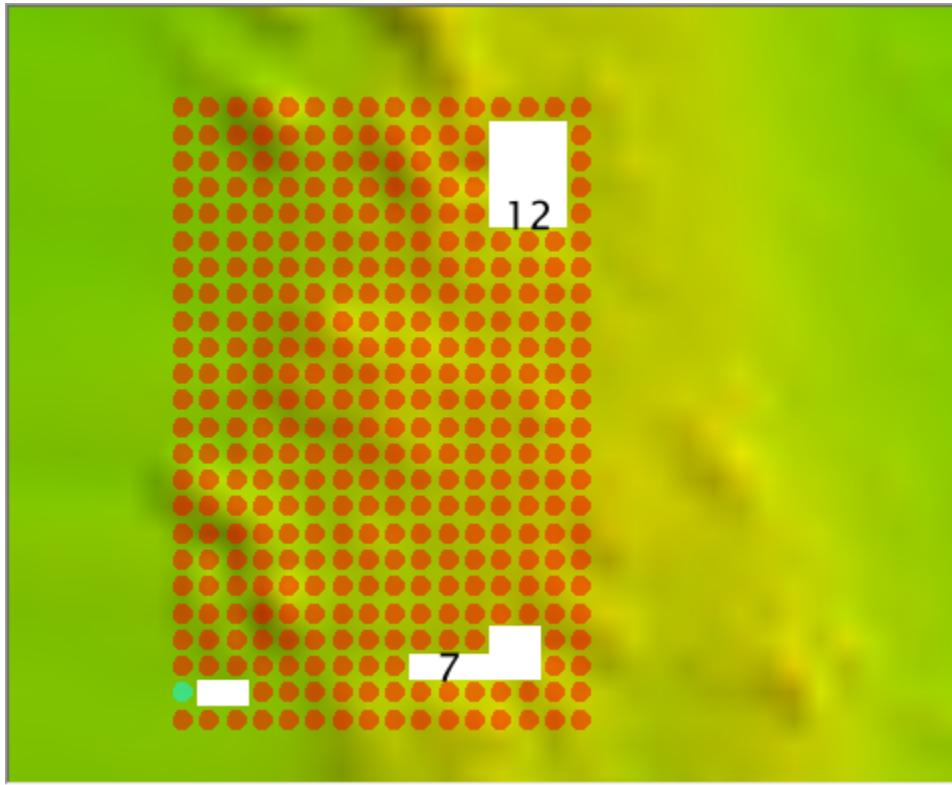

Fig. 2.21: Example for Object detection.
- In the example in (Fig. 2.21), Object Detection requirements identify the holes of 12 and 7 nodes, because each has 3 collinear, contiguous unpopulated nodes. The hole with 2 grids does not.